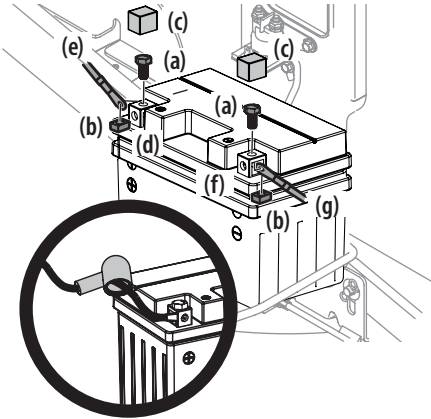

Figure 12
1. Remove the hex screws (a) and square nuts (b) located either on the end of the wiring harness or in the bag with this manual. Retain the hardware for later instructions. See Figure 12.
2. Remove the plastic cover (c), if present, from the positive battery terminal (d) and attach the red cable (e) to the positive battery terminal (d) with one of the hex screws (a) and square nuts (b), from Step 1. Use a Phillips screw driver. See Figure 12.
3. Remove the plastic cover (c), if present, from the negative battery terminal (f) and attach the black cable (g) to the negative battery terminal (f) with the remaining hex screw (a) and square nut (b). See Figure 12.
4. Position the red rubber boot over the positive battery terminal to help protect it from corrosion. See inset in Figure 12.